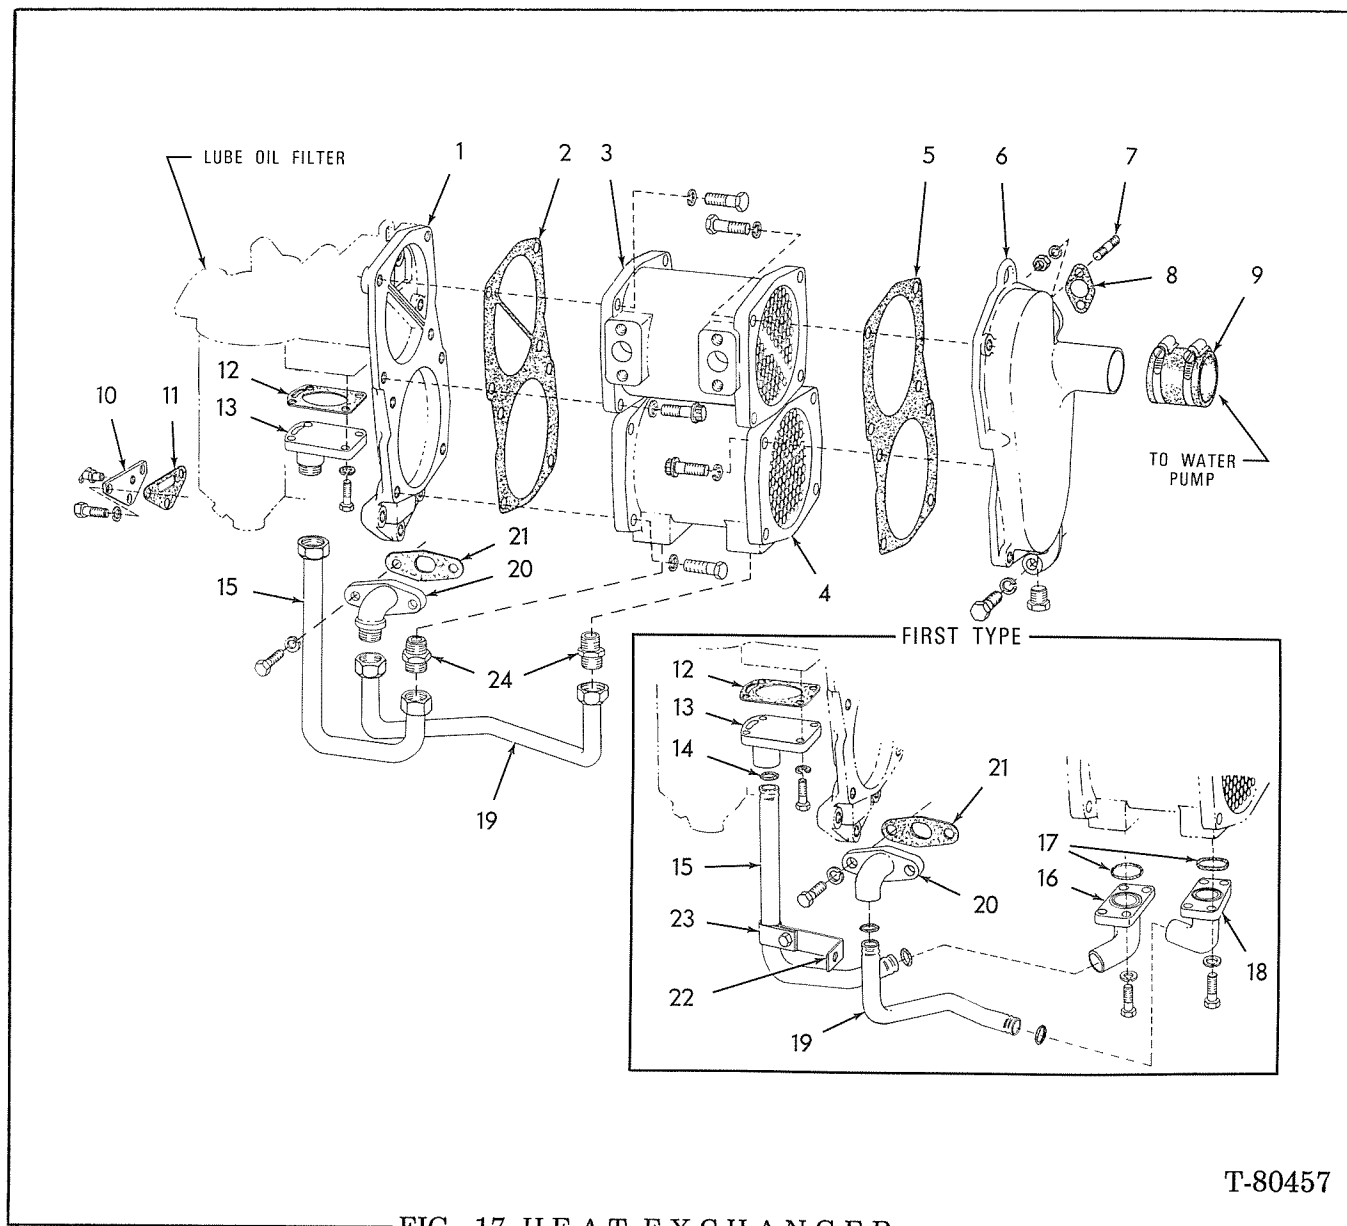

FIG. 17 HEAT EXCHANGER
On late model engines, only one (1) O-ring is used on each end of oil tubes, Fig. 17 (15, 19). O-ring must be installed in end groove of each tube.